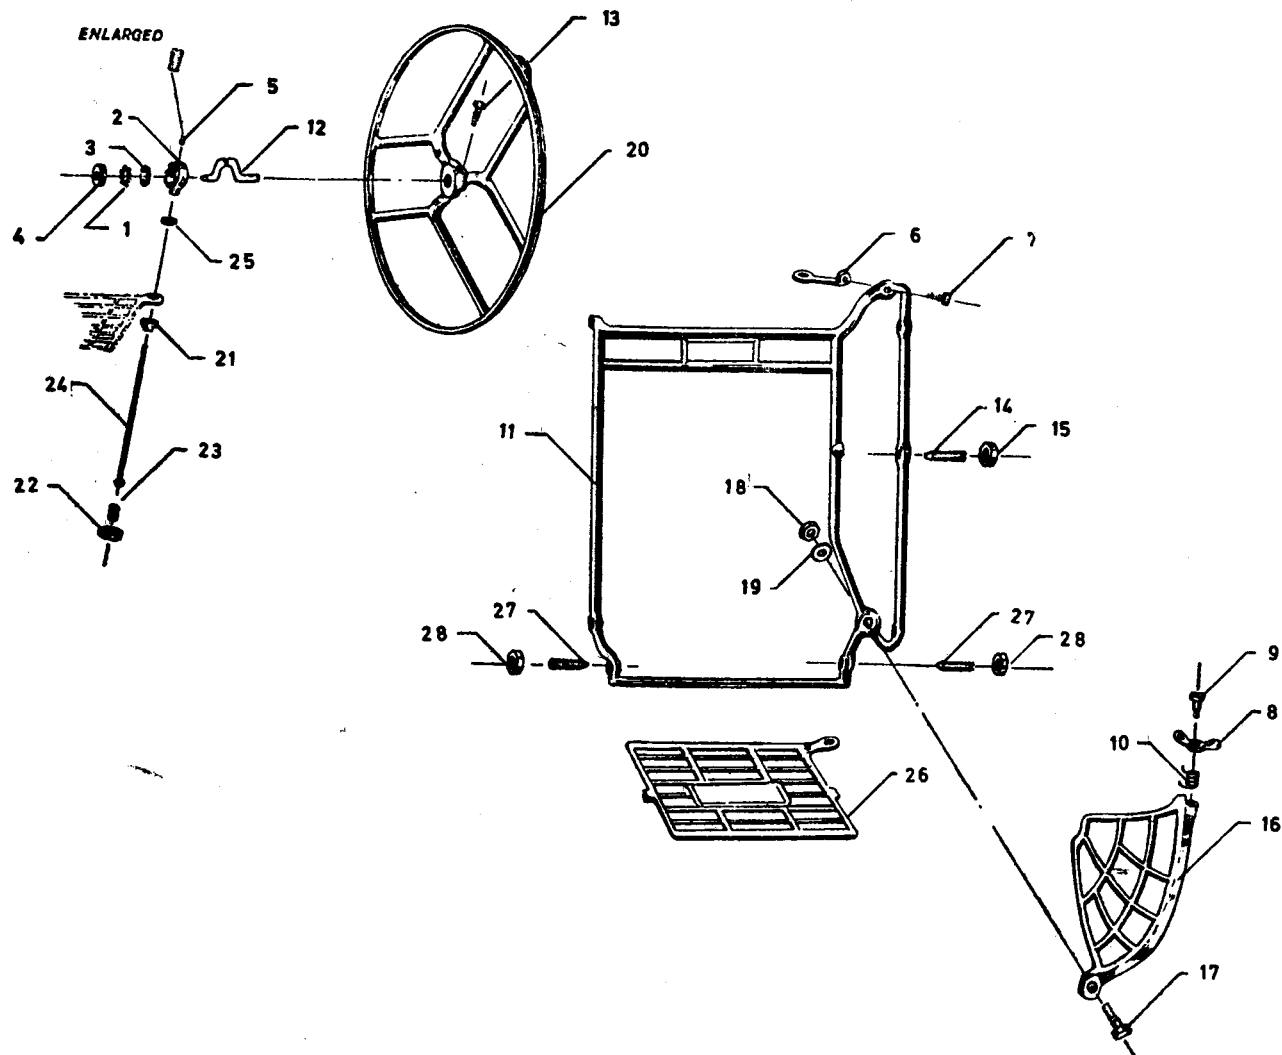

FIG. 20 CENTRE BRACE ASSEMBLY
**2.20 Centre Brace Assembly — See Fig. 20.**